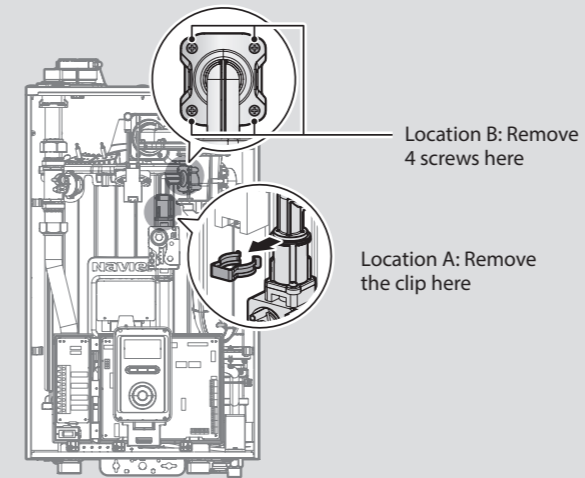

Figure 3. Detaching the Gas Valve Outlet Adapter from the Gas Valve and Fan Motor Assembly
- Remove the clip at location A - the connection above the gas valve where it connects to the gas valve outlet adapter. See Figure 3 for reference.